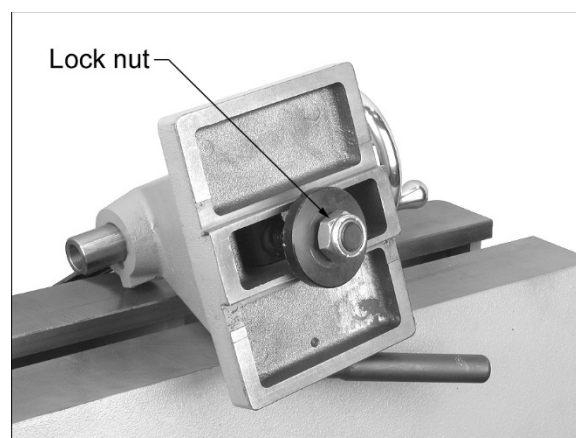

Figure 8-3: Cam Adjustment
If headstock, tailstock or tool rest base does not properly tighten down against bed when locking handle is tightened, adjust as follows. Figure 8-3 uses tailstock as example.
2. Turn tailstock on its side and tighten lock nut with a wrench. See Figure 8-3.